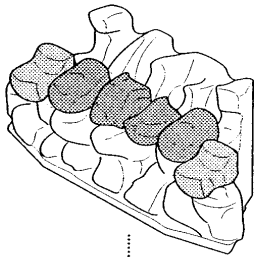

Fig. 41
2. Take 4 coals and place as shown in Fig. 41 bridging the front and the rear coal mouldings. Ensure that the flat faces on these coals face downward.